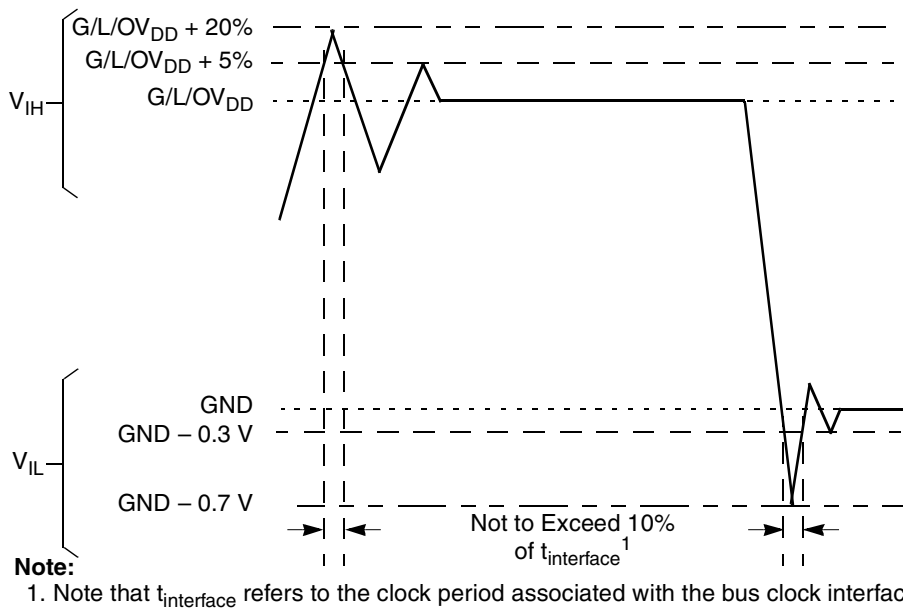

Figure 3. Overshoot/Undershoot Voltage for $GV_{DD}/OV_{DD}/LV_{DD}$
- (M,L,O) V_{IN} and MV_{REF} may overshoot/undershoot to a voltage and for a maximum duration as shown in Figure 3.
Figure 3 shows the overshoot and overshoot voltages at the interfaces of the device.